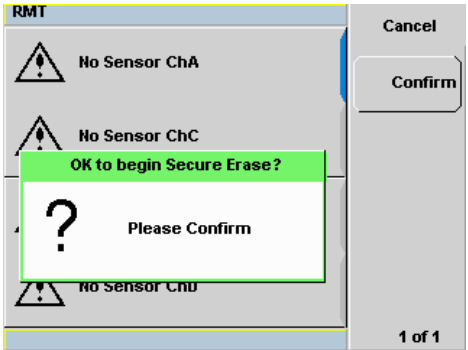

Figure 2-54 Confirmation to begin secure erase
- 2 A confirmation pop-up will be displayed, press **Confirm** to begin secure erase (see Figure 2-54).